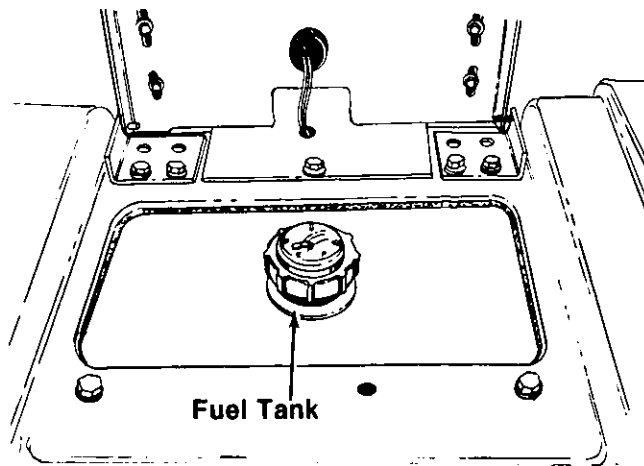

FIGURE 8.
3. Fill the fuel tank with clean, fresh, regular or unleaded gasoline. See figure 8. Tank is located under the seat.